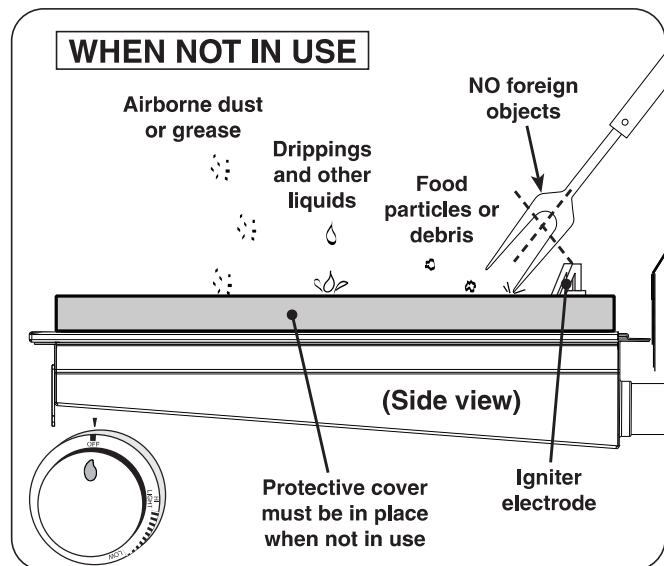

Fig. 28-2 Infrared burner - WHEN NOT IN USE
- When not in use, **always** cover the infrared burner with the stainless-steel cover. This protects the burner from drippings (from other cooking), water, airborne particles, and foreign objects (Fig. 28-2).
- Do not strike or scrape the ceramic portion of the burner as it may chip, crack, or break (Fig. 28-2).